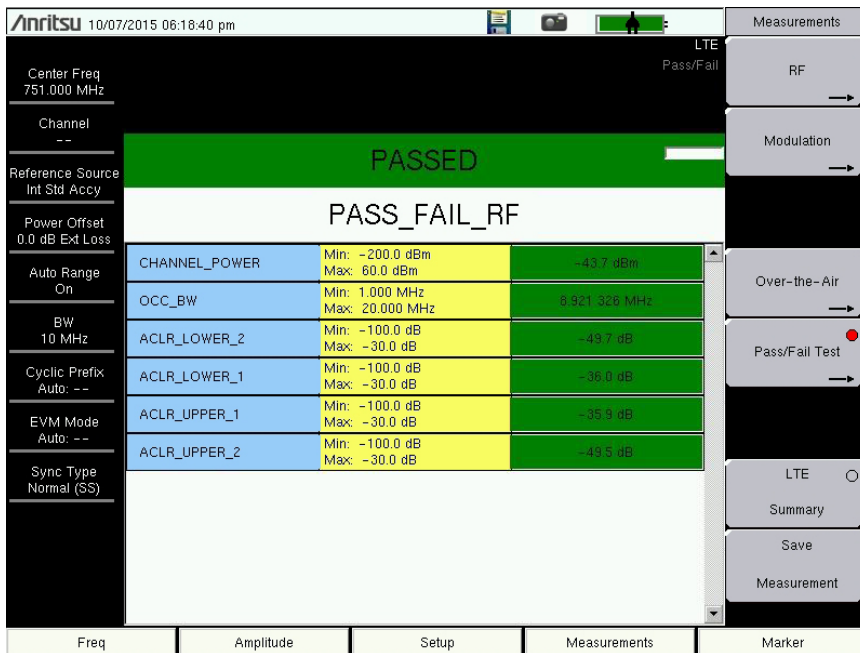

Figure 5-15. Past/Fail Test
2. Press the Pass/Fail Test submenu key to activate the Pass/Fail display in table format (Figure 5-15). Press the Pass/Fail Test submenu key again to select a Pass/Fail test.